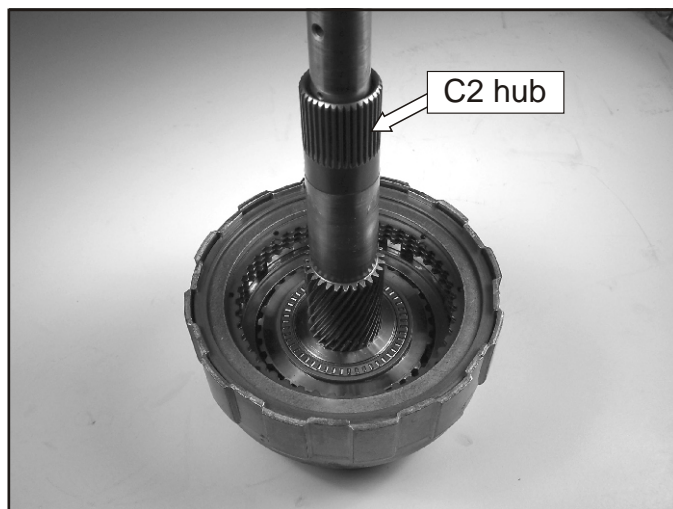

Figure 246
- 174. Index the C2 hub into the C2 clutch plates as shown in Figure 246.